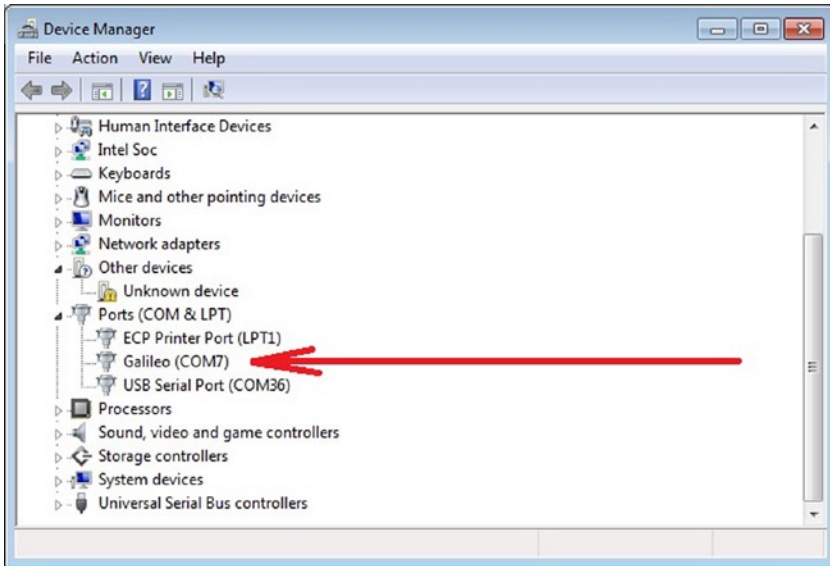

Figure 3-3. Galileo serial driver in Windows the Control Panel
2. Look under Ports (COM & LPT). You should see an open port named “Gadget Serial V2.4” if you using an old release like 0.7.5 or simply “Galileo” in newer releases. Figure 3-3 shows the serial driver.
The concept of “verify” on Arduino IDE really means compile the code. That should report “Done compiling” in the area represented by the number 2 in Figure 3-3.